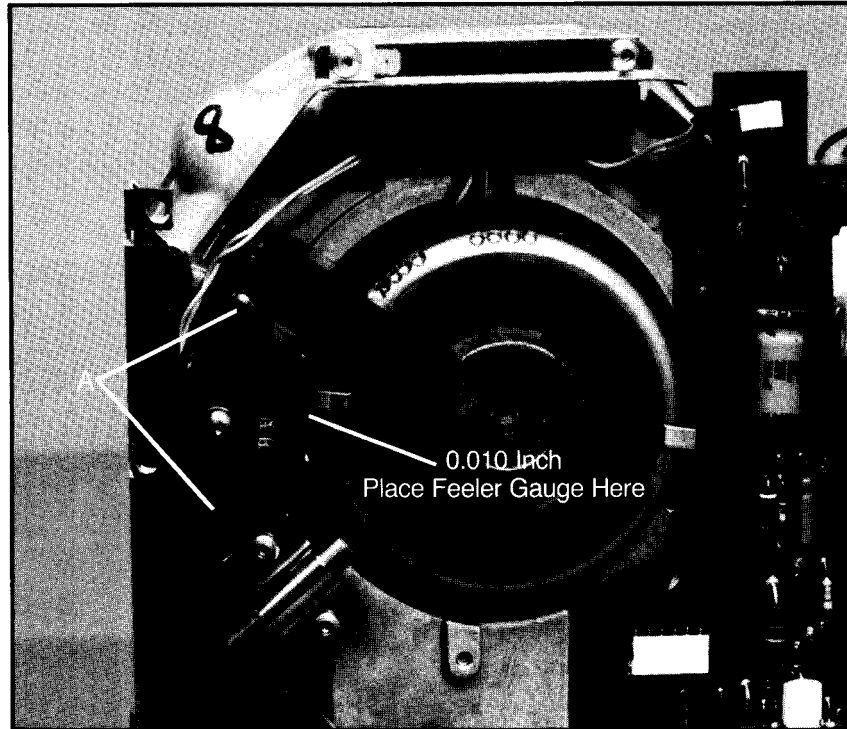

Figure 2-4. Brake/Index Assembly
To adjust the brake on the Winchester drive, first disconnect the disc memory from any AC power source. Refer to Chapter 2 of Section II and remove the top cover, Winchester controller PCA, Winchester drive assembly and drive electronics PCA. Place the drive assembly on a clean, dry surface bottom side up. Check the clearance between the drive hub and the brake pad and adjust if necessary for a clearance of 0.010 inch. To do this, loosen the two screws (A) shown in Figure 2-4, place the 0.010 inch feeler gauge between the hub and the brake pad and move the brake/index/ground assembly toward the hub until snug. Tighten the screws previously loosened and proceed to the index sensor adjustment.